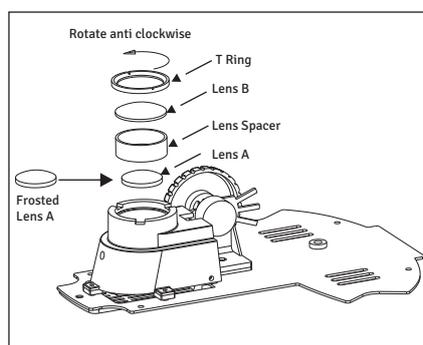

Fig. 9
4. Open the illumination assembly as in (figure 9), by rotating the T Ring. Replace the lens B with frosted lens provided with the Koehler kit.